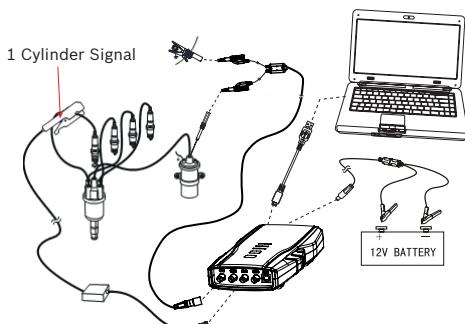

Fig. 55: Equipment connection
Connect one end of 1 cylinder signal to CH3 of KT720 , use signal clip to clip high voltage line of one cylinder of engine. Please check that there is "This side faces to spark plug" on the signal clip, do not clip reversely. Connect BNC end of KT720 oscilloscope probe to CH1, then connect the other end of the black banana plug and black alligator clip to negative pole of battery or grounding, and connect the other end of red banana plug and red banana socket into "IG-" signal line of ignition coil, as shown Fig.55.
- Connect equipment according to Fig.55, switch on power supply.